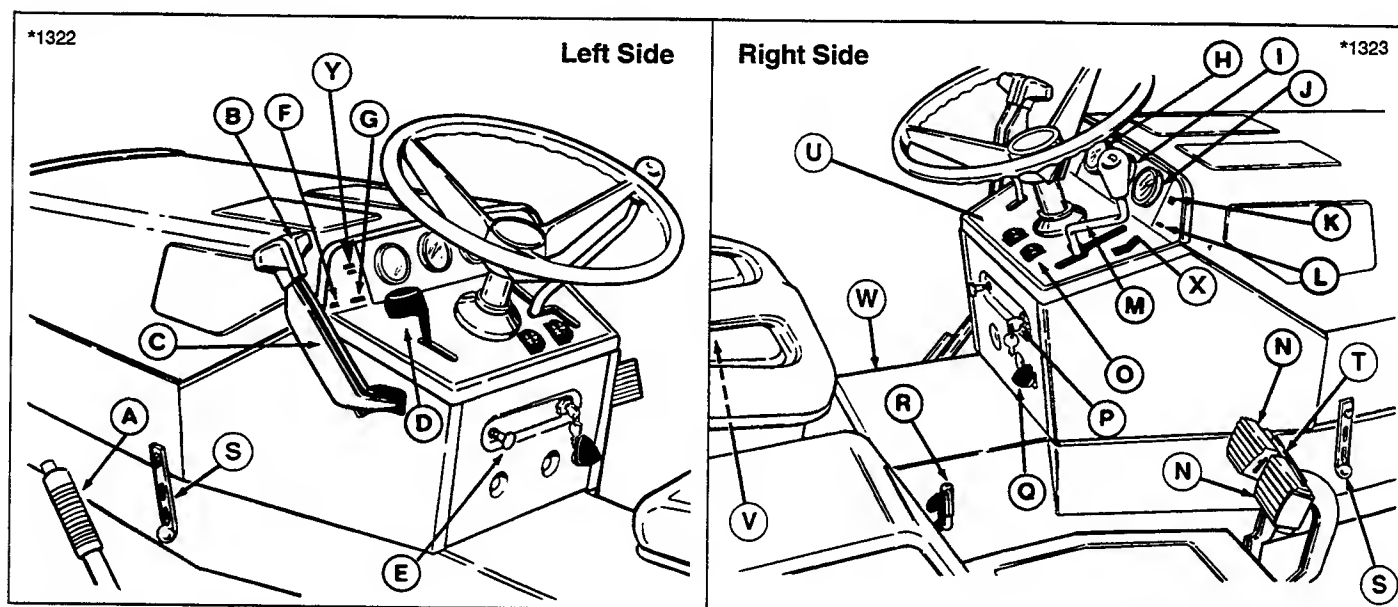

Figure 2. Tractor Controls
- A. Neutral Indicator Light (G, figure 2) should go on with ground speed control lever in neutral gate and should go out when lever is moved to either the forward or reverse gate.
- B. Front PTO Indicator Light (K, figure 2) should go on and off with operation of PTO switch.
- C. Oil Pressure Indicator Light (F, figure 2) should be on and should go out immediately after engine starts.
- D. Operator Seated Indicator Light (L, figure 2) should go on when operator is present in the seat and should go off as operator rises out of the seat.
- Start the engine and turn the front wheels straight ahead. Using the hydraulic lift lever (B, figure 2), raise the mower to full transport position, then shut off the engine.